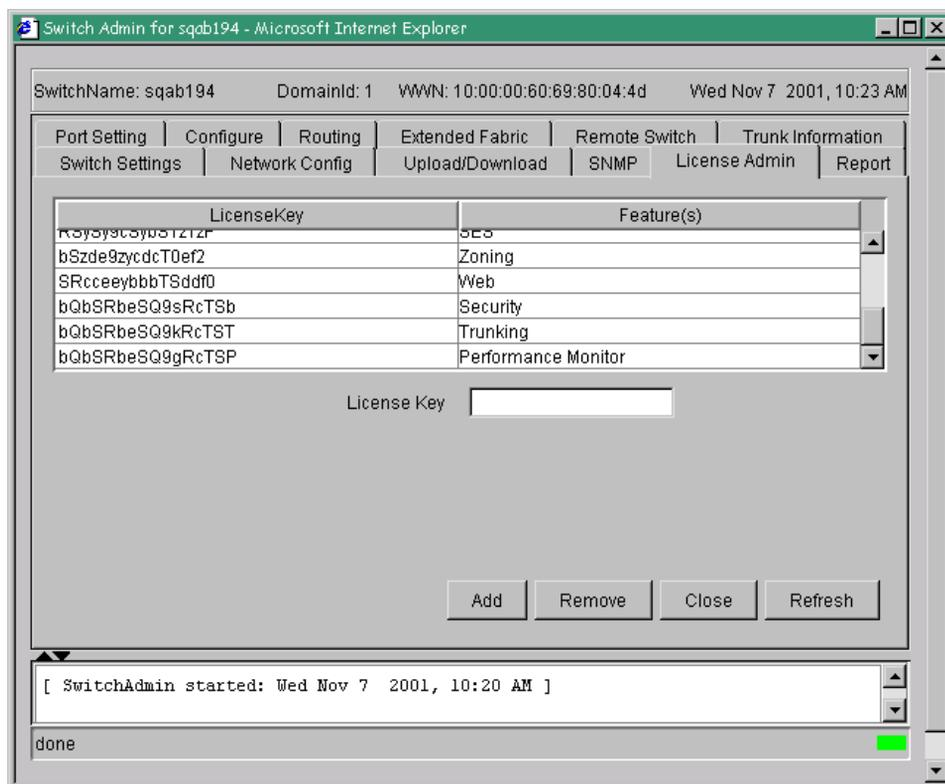

Figure 3: License Admin tab
The Administration View displays. (See Figure 3 on page 26.)
4. Select the **License Admin** tab. Figure 3 shows a typical **License Admin** tab screen.